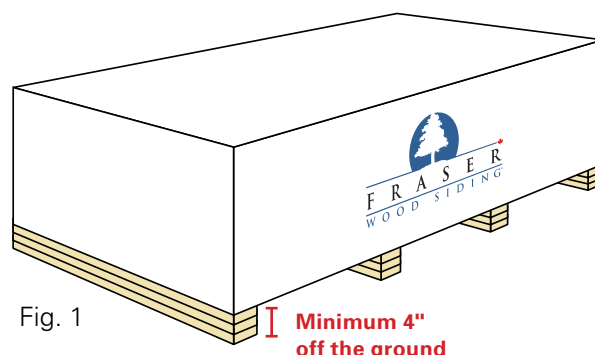

Fig. 1
- Siding should be stored a minimum of 4" off the ground on a flat surface, under a roof or under a waterproof covering. *(See Figure 1)*